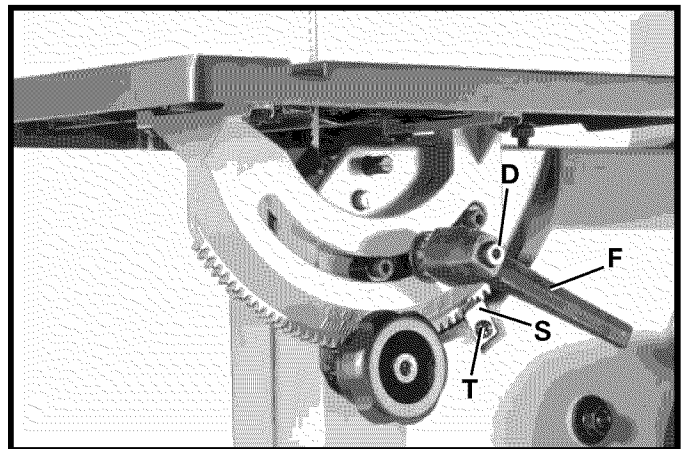

Fig. 11
7. Fasten pointer (S) Fig. 11, to the back of band saw using the M5 x 10mm screw (T).
8. Using the supplied 4mm Hex socket wrench, re-assemble table locking handle (F) Fig. 11, on stud and replace screw and spring (D). **NOTE:** Handle (F) is spring-loaded and can be repositioned on the stud by pulling out the handle and repositioning it on the nut.